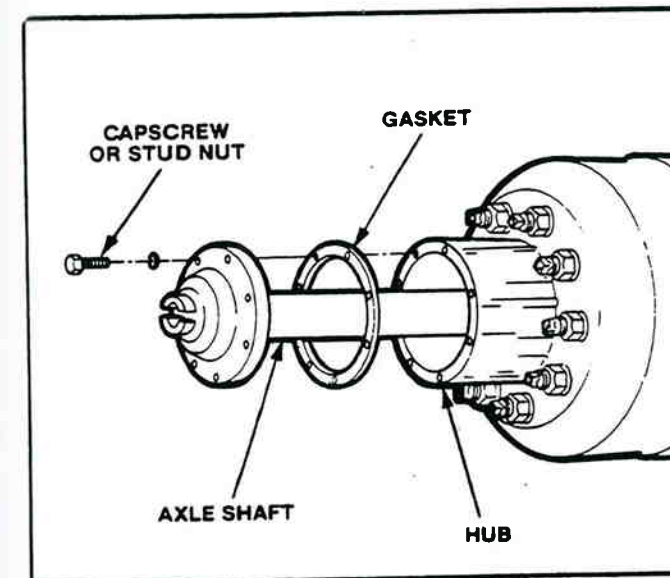

Figure 2-102. Installing Axle Shafts And Gaskets.
12. Install the gaskets and axle shafts into the axle housing and carrier. The gasket and flange of the axle shafts must fit flat against the wheel hub (Figure 2-102).